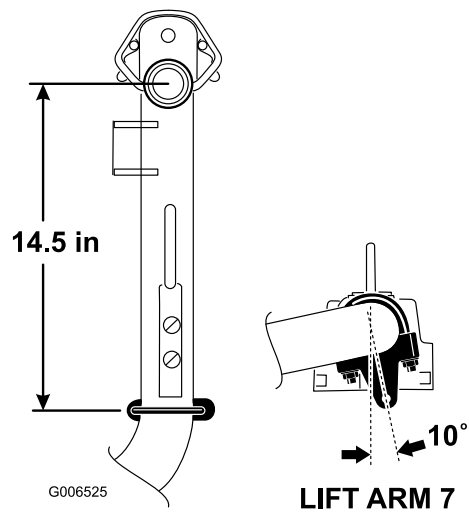

Figure 6
- On lift arms #6 and #7, position the brackets and U-bolts 14.5 inches behind the center line of the pivot knuckle (Figure 6). Rotate the brackets 10 degrees to the outboard side of the machine.